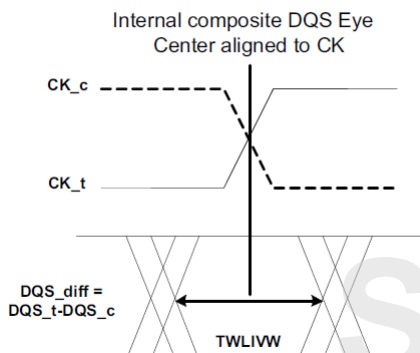

Figure 25. DQS_t/DQS_c to CK_t/CK_c timings at the DRAM pins referenced from the internal latch
28) t_{WLIVW} is defined in a similar manner to t_{DQSV} , except that here it is a DQS input valid window with respect to CK. This would need to account for all VT (voltage and temperature) drift terms between CK and DQS within the DRAM that affect the write-leveling input valid window. The DQS input mask for timing with respect to CK is shown in Figure 25. The "total" mask (t_{WLIVW}) defines the time the input signal must not encroach in order for the DQS input to be successfully captured by CK with a BER of lower than tbd. The mask is a receiver property and it is not the valid data-eye.